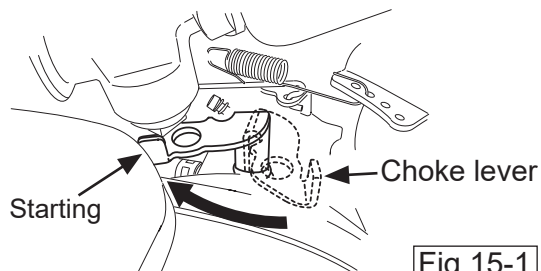

Fig.15-1
- 4 When it is cold or the engine does not start easily, close the choke lever. (Fig. 15-1~4)